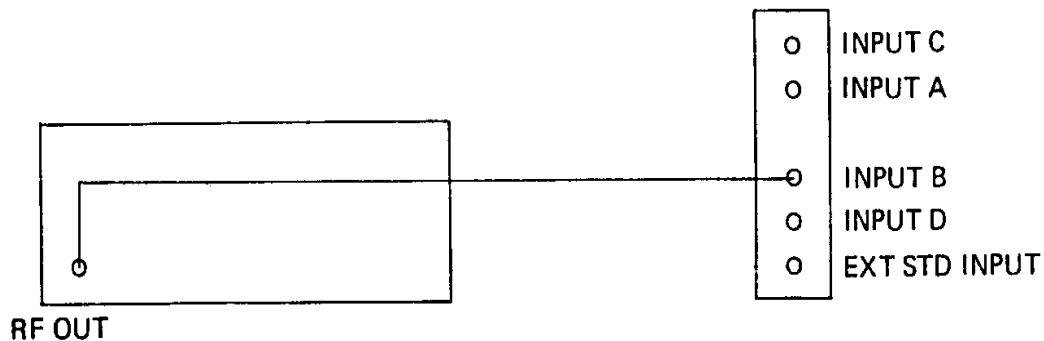

Figure 4-14, Input B X10 Attenuator Check Configuration
- 4.2.3.2 Connect the counter to the signal generator as shown in **Figure 4-14**.